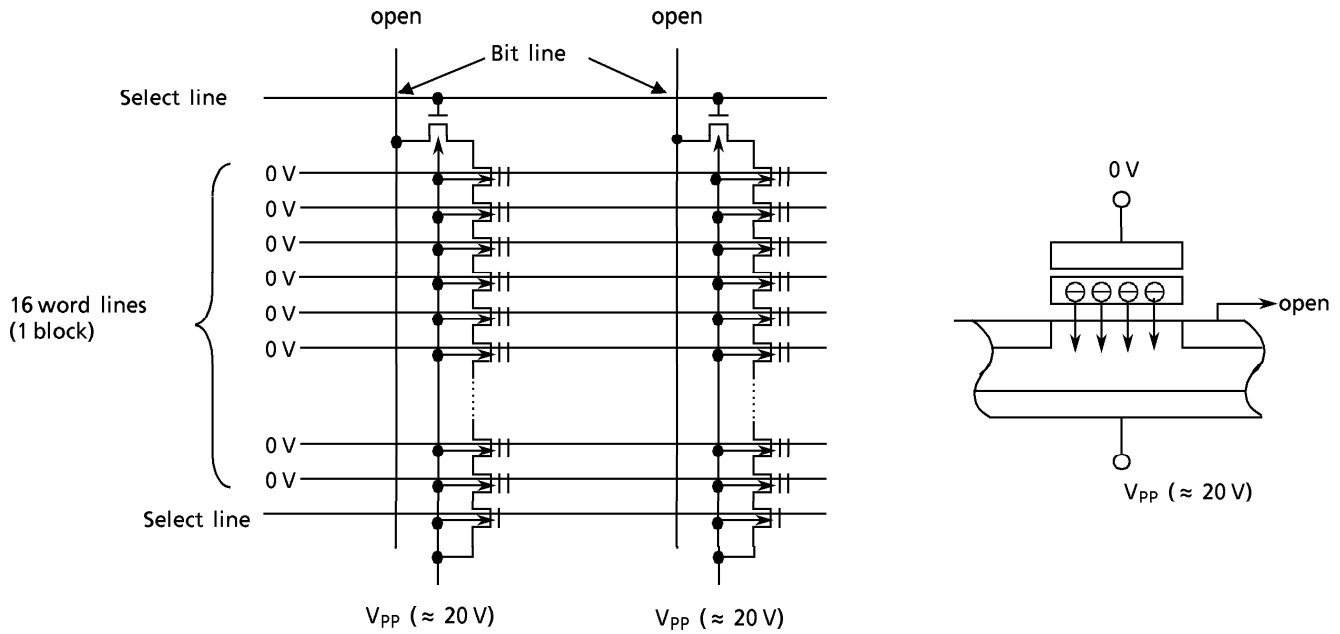

Figure 18. TC5816 Erase Device Physics
- (1) A high level is applied to Select line 1 and a low level is applied to Select line 2 so that the device is connected to the Bit line and disconnected from the ground line.
- (2) V_{pp} ($\approx 20\text{ V}$) is applied to the selected word line and an inhibit voltage of V_{PI} ($\approx 10\text{ V}$) is applied to the unselected word lines.
- (3) 0 volts is applied to the bit line tied to cell transistor TR1 and the inhibit voltage V_{DPI} ($\approx 10\text{ V}$) is applied to the bit line tied to TR2.
- (4) V_{pp} is applied between the control gate and the channel in TR1, as shown in Figure 18, which causes electrons to be injected from the channel to the floating gate by a tunneling mechanism.
- (5) The injected electrons are captured in the floating gate surrounded by an oxide layer and will remain, even after power is cut off, until they are removed by an Erase operation.
- (6) Although 20 volts is applied to the control gate of TR2, the voltage difference between the control gate and the channel is only 10 V because the voltage of the channel is 10 V. Therefore, tunneling does not take place (i.e. the electron is not injected into the floating gate.)
- (7) Tunneling does not take place in the unselected pages because of the 10 V (V_{PI}) applied to the unselected word lines which makes the voltage difference between the control gate and channel only 10 volts.
Figure 18 shows the NAND memory cell level details of the Erase mechanism. The Erase operation is used to turn the “0” (programmed) cells back to “1” in a block. The captured electrons are pulled out from the floating gate to the substrate by a tunneling mechanism. 0 volts is applied to the control gate and V_{pp} (≈ 20 V) is applied to the substrate so that a 20-volt potential is created and the electrons in the floating gate are pulled out by the tunneling mechanism.